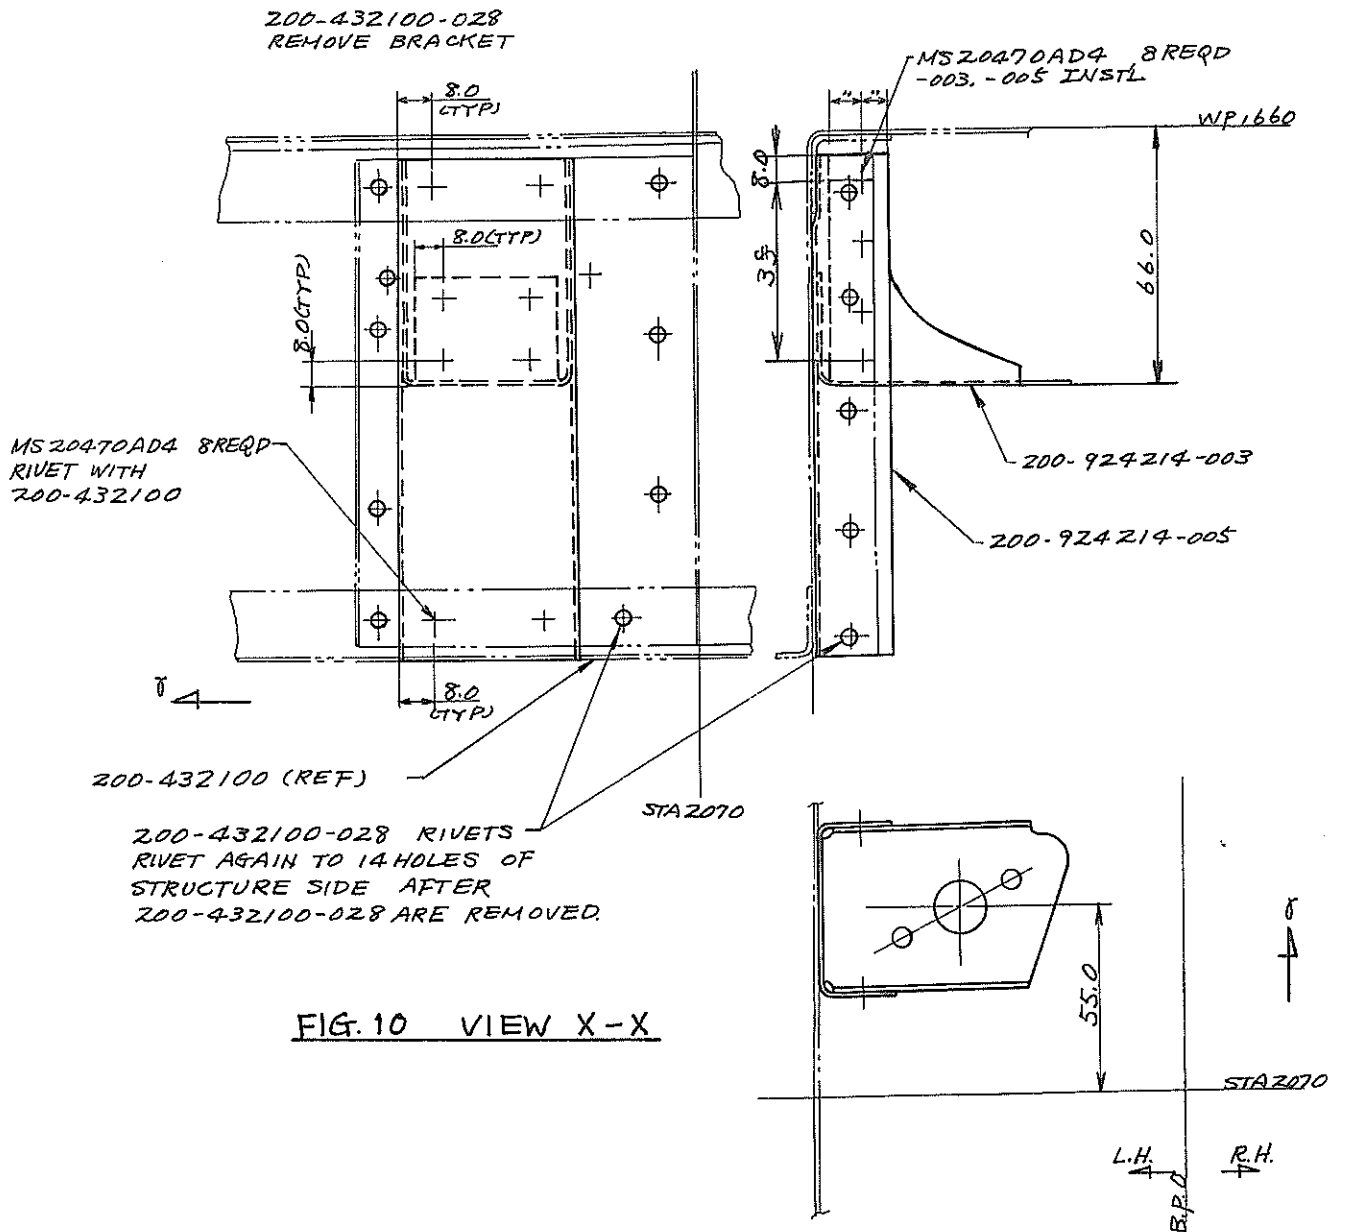

FIG. 10 VIEW X-X
- (g) Remove the bracket, 200-432100-028, at the front of STA 2070 bulkhead, existed in inside of L.H side of center pedestal with fourteen rivets. (See Fig. 10) Rivet the unnecessary hole with same size rivet to the structure member.
- (h) Assemble the bracket, 200-924214-003, and channel, 200-924214-005 as shown in Fig. 10.
- (i) Attach the bracket and channel assembled in step (8) to the forward position of bulkhead at STA 2070, inboard of left hand face of center pedestal as shown in Fig. 10. Install the bracket, 200-924214-003, to be paid attention for up and down position of the bracket. (66.5 mm down position from upper surface of the pedestal at wp 1660)